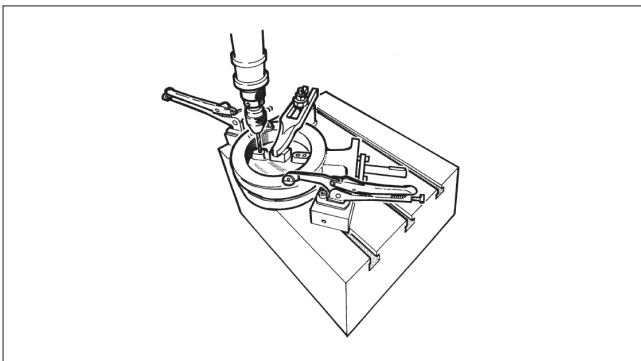

Fig. 14 Pressing the pins
- Remove the clamp ring (2) and seat ring (4) according to section 5.
- Set the valve horizontally on a sturdy surface so that the flat side of the disc lays against the surface (see Fig. 14).
- Drill the holes carefully to the center of the pins (16). Choose a drill 0.2-0.5 mm smaller than the diameter of the pin.
- Dismantle the gland packing including anti-extrusion ring (23) according to Section 5.3.
- Detach the screws (44) and the blind flange (8) and remove the gasket (31).
- Place rubber strips or other protection between the disc edge and the body and remove the shafts (see Fig. 14).
- Remove the bearings (11).